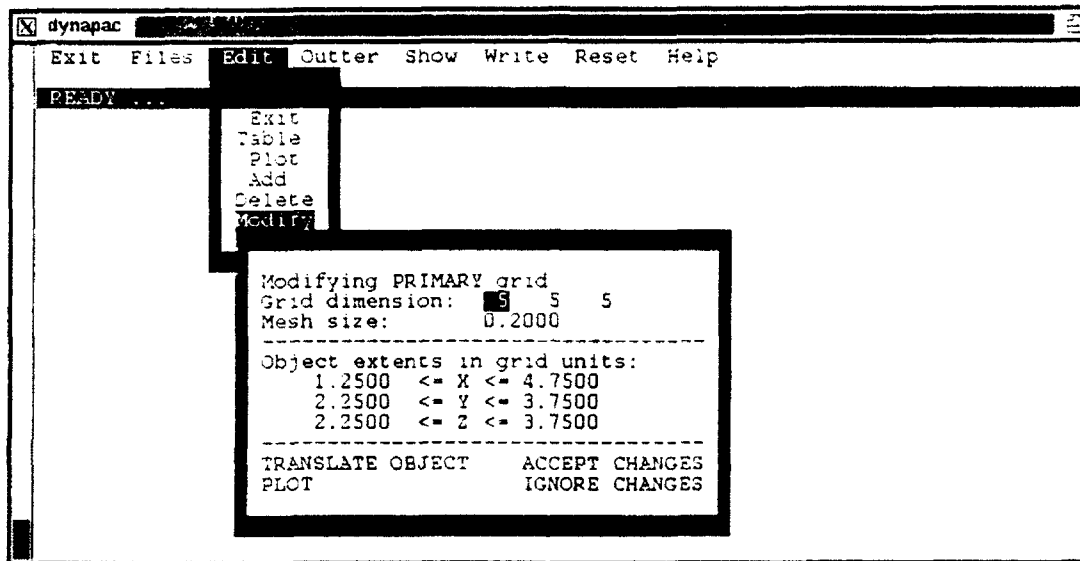

Figure 5.1 GridTool screen for the Edit/Modify option.
4. Choose the "Edit" option to change the grid parameters. Start with the only existing grid, grid 1, and choose the "Modify" screen. The console now appears as shown in figure 5.1.